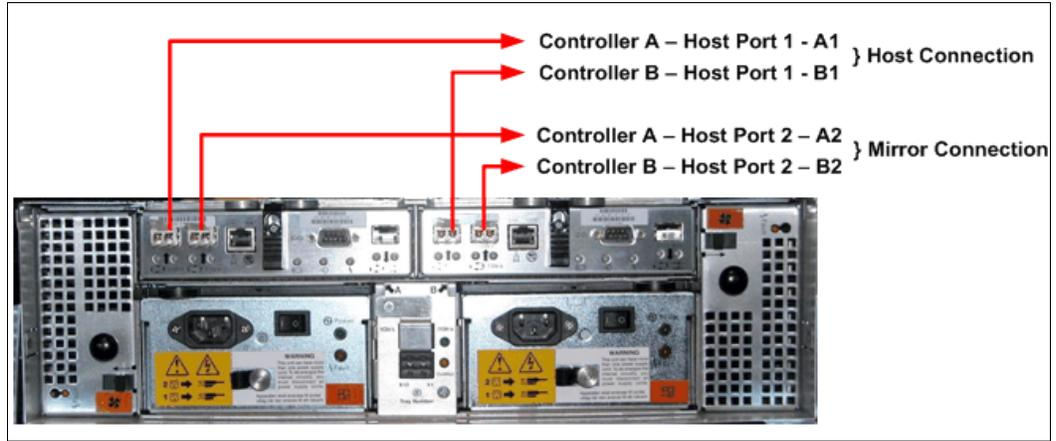
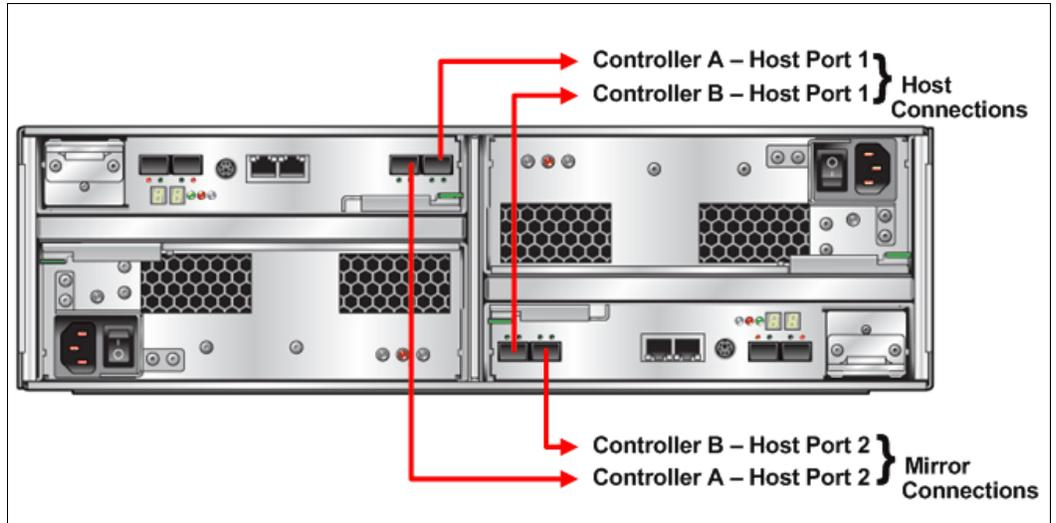

Figure 8-11 Host-side ports for host and ERM connections on DS4100/DS4300 Turbo
Figure 8-12 Host-side ports for host and ERM connections on DS4200 and DS4700 model 70
- ▶ On the DS4700 model 70, DS4200, DS4100, and DS4300 with Turbo feature, the host ports A2 and B2 are used (see Figure 8-11 and Figure 8-12 for the host-side port locations).